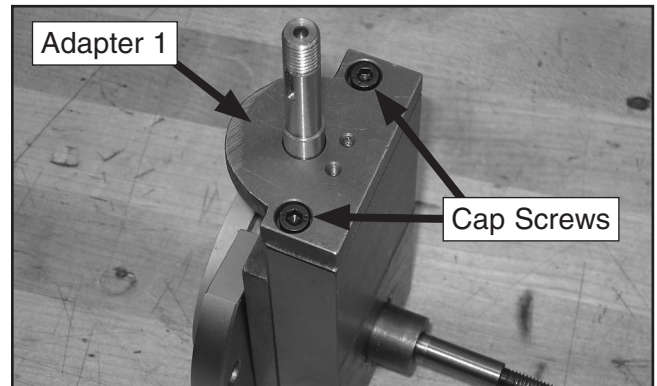

Figure 16. Adapter 1 installed over leadscrew and attached to compound slide.
22. Slide adapter 1 over the leadscrew, adjust the leadscrew as necessary to make the adapter fit against the compound, then secure adapter 1 with two M5-.8 x 14 cap screws, as shown in **Figure 16**.